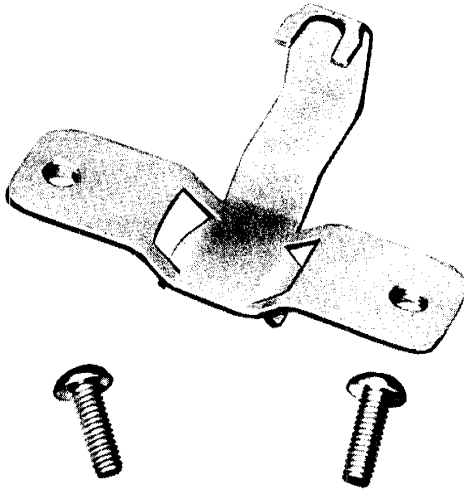

Fig. 9—90A Bracket
- 3.03** The 90A Bracket is a formed metal bracket (Fig. 9).